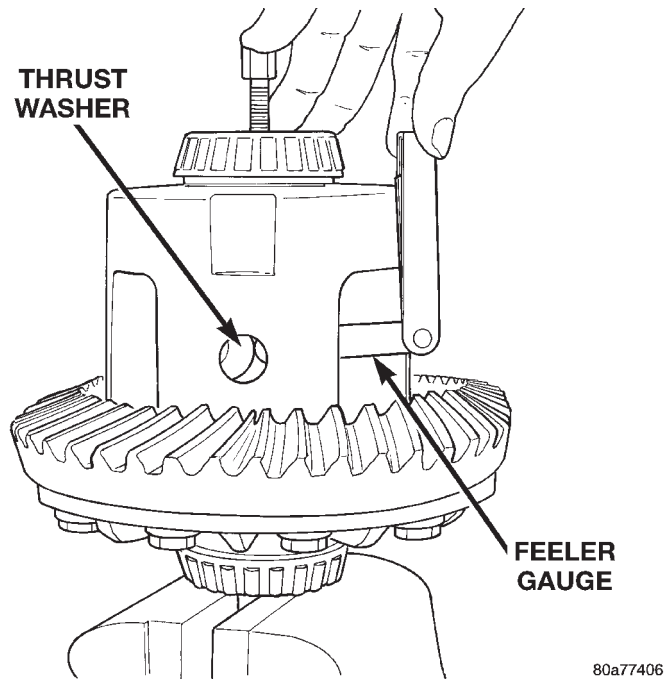

Fig. 45 Remove Pinion Gear Thrust Washer
(10) Using an appropriate size feeler gauge, remove thrust washers from behind the pinion gears (Fig. 45).